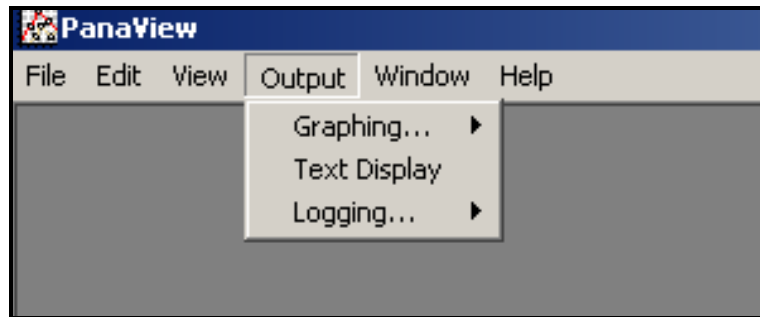

Figure 14: The Output Menu
1. In PanaView, pull down the *Output* menu, as shown in *Figure 14 below*, and click on the *Text Display* option.